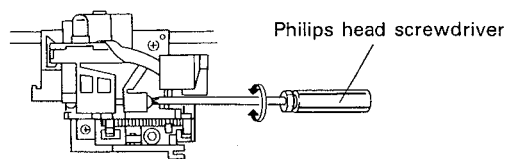

Fig. 2
4. Insert a Philips head screwdriver with a long shaft through the rear panel and adjust the tilt sensor inclination adjustment screw until the tilt error DC voltage reads 0V. (See Fig.2.)